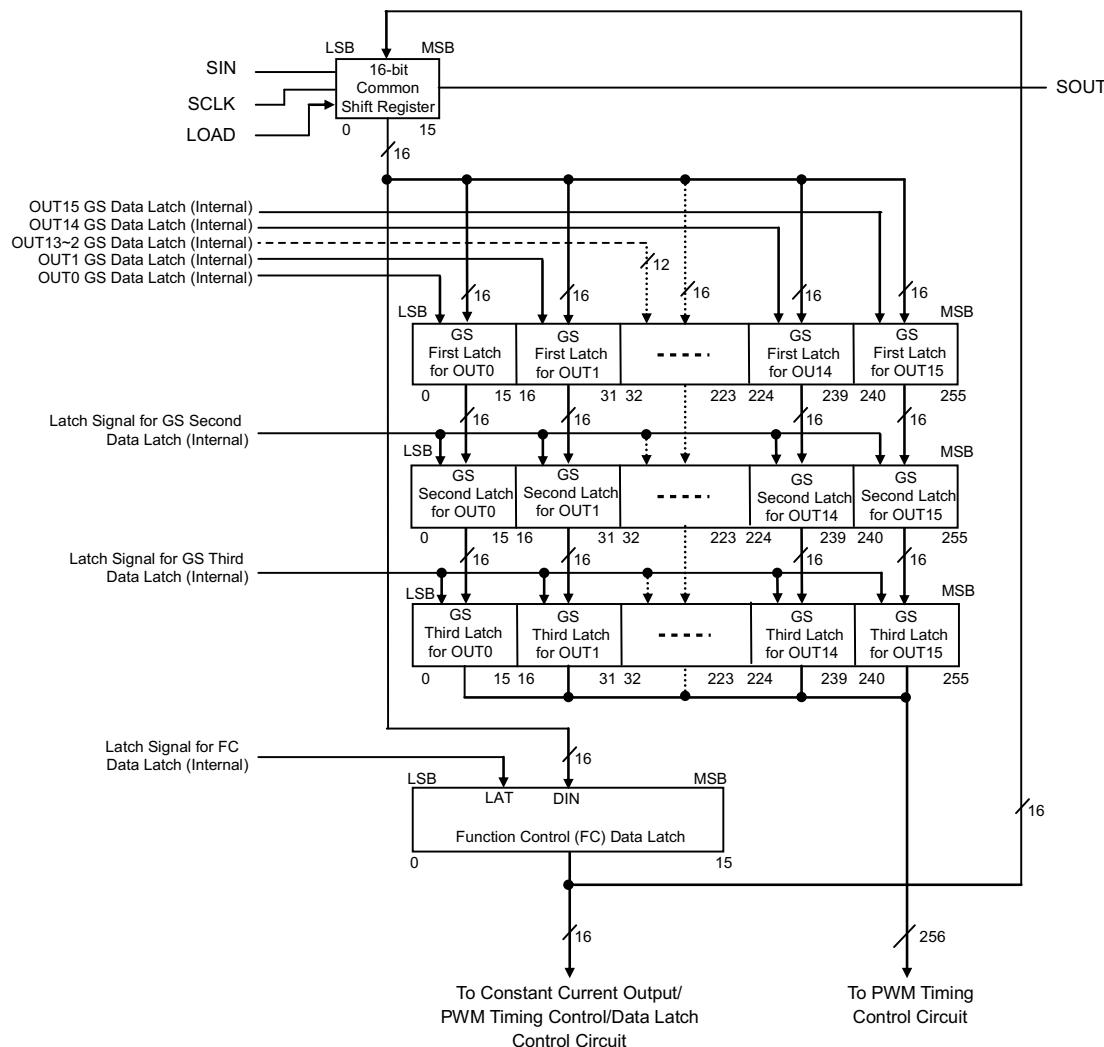

Figure 21. Shift Register and Data Latch Configuration
The TLC59482 has one common shift register, one function control (FC) data latch, and a set of three data latches: the first, second, and third grayscale (GS) data latches. The common shift register and FC data latch are 16 bits long and the GS data latches are 256 bits long. Figure 21 shows the common shift register and the data latches configuration.
The TLC59482 has six commands that can be input with SCLK and LAT signals: WRTGS, LATGS, READFC, WRTFC, TMGRST, and FCWRTEN. Refer to Figure 21 to Figure 26 for detailed command input timing diagrams for each command. Each command function is described in Table 6.